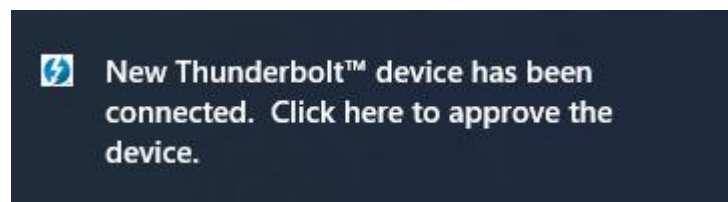

Figure 2-4 New Thunderbolt devices have been attached" message
4. When the host pc connects to the FLIK with Thunderbolt 3 cable for the first time. Windows should detect a Thunderbolt Device and you will see a “New Thunderbolt device has been connected” message appear in the bottom right corner of your screen as shown in **Figure 2-4**. Click the message to approve the device.